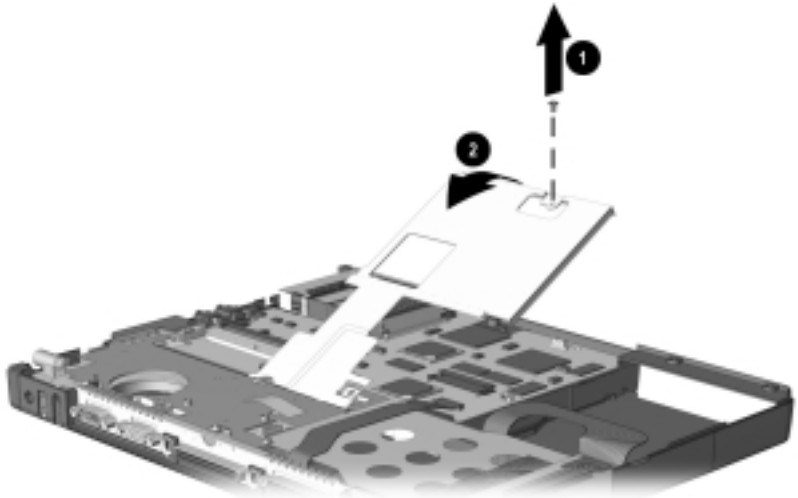

Figure 5-22. *Removing the Front Shield*
3. Remove the screw ❶ that secures the front shield to base enclosure (Figure 5-22).
4. Lift the front edge of the front shield up and swing it toward the back of the computer ❷.